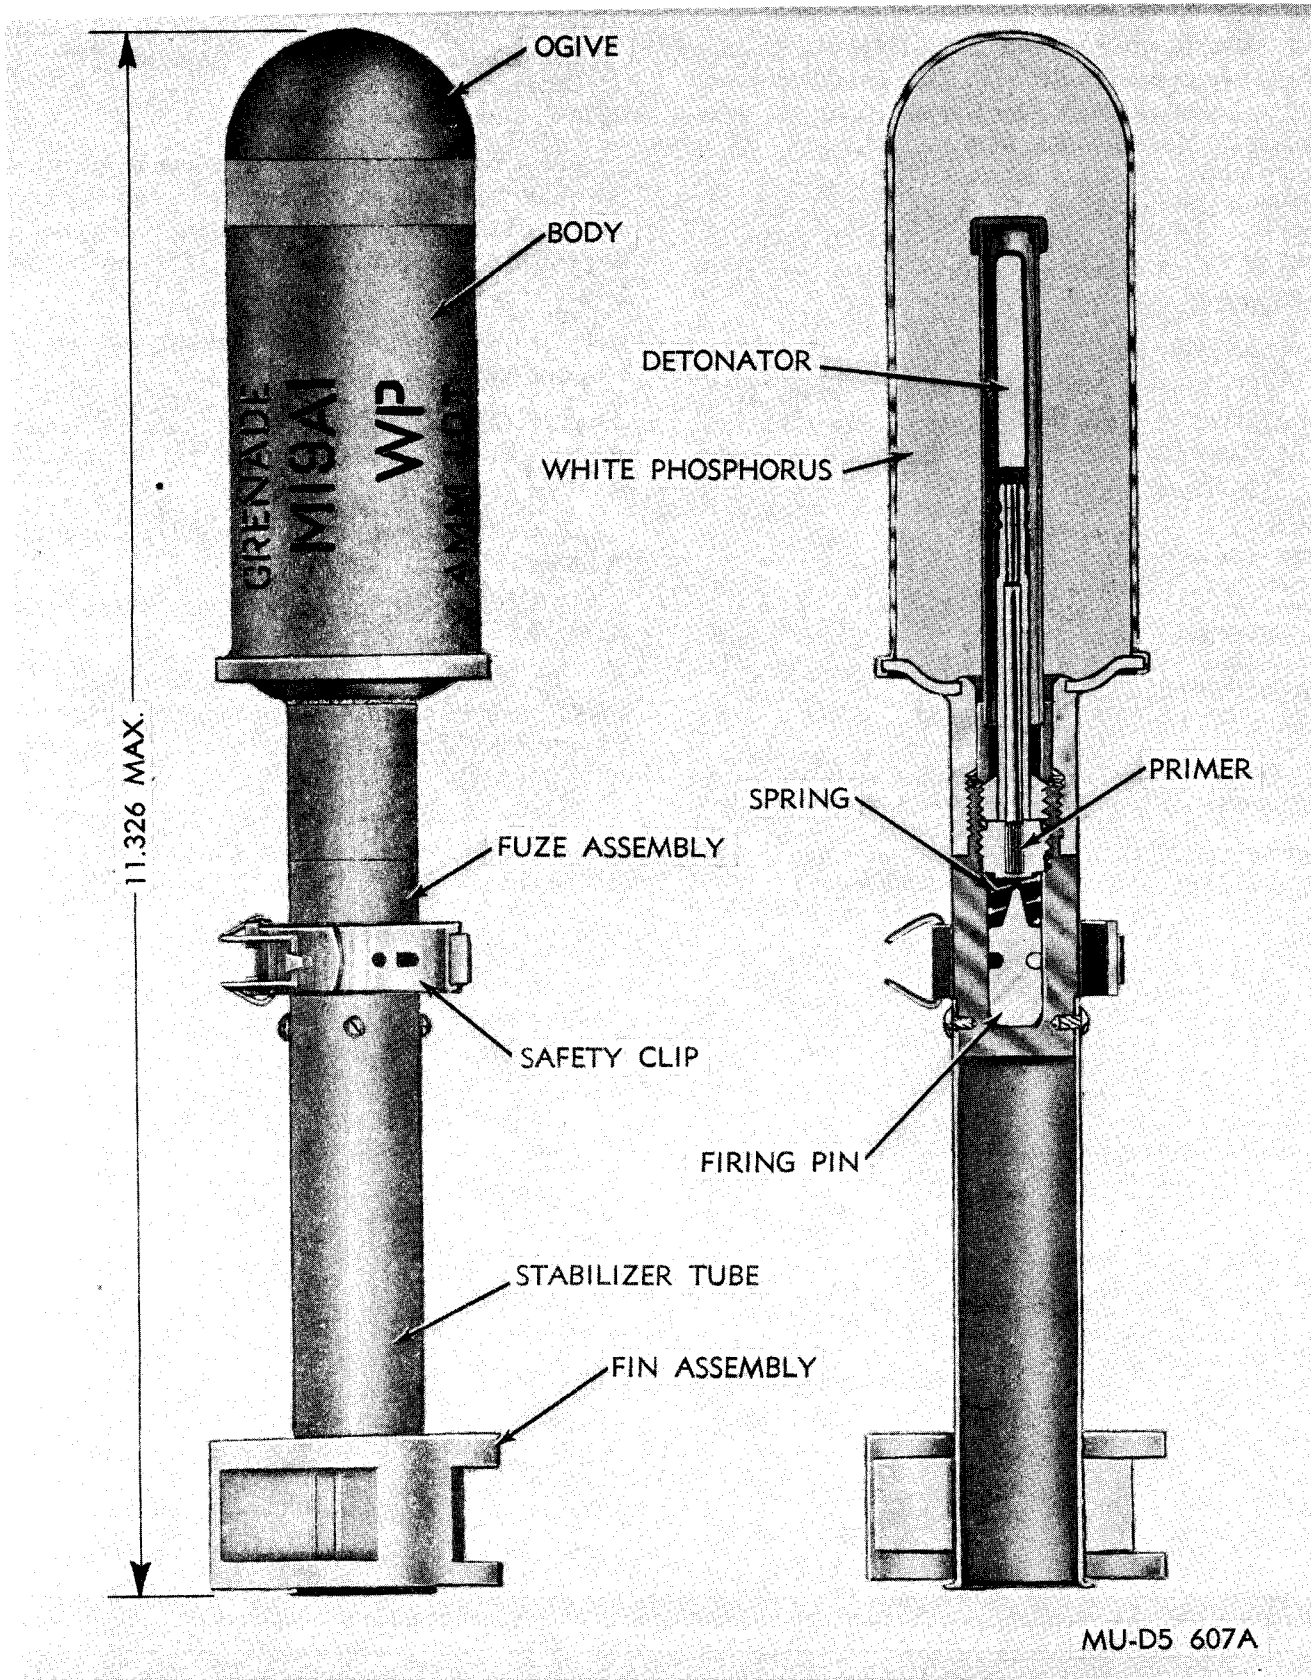

Figure 3-4. WP smoke rifle grenade M19A1.
a. *General.* WP Smoke Rifle Grenade M19A1 (fig. 3-4) is filled with WP. This chemical agent ignites spontaneously when exposed to air, producing a yellow-white flame and giving off a dense cloud of white smoke. When used as an antipersonnel weapon, Grenade M19A1 has an effective casualty radius of 10 meters. Grenade M19A1 has a maximum range of approximately 195 meters.